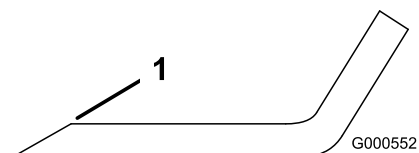
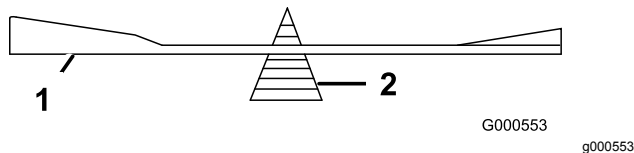

Figure 50
Figure 51
1. Use a file to sharpen the cutting edge at both ends of the blade (Figure 50). Maintain the original angle. The blade retains its balance if the same amount of material is removed from both cutting edges.
2. Check the balance of the blade by putting it on a blade balancer (Figure 51). If the blade stays in a horizontal position, the blade is balanced and can be used. If the blade is not balanced, file some metal off the end of the sail area only (Figure 50). Repeat this procedure until the blade is balanced.